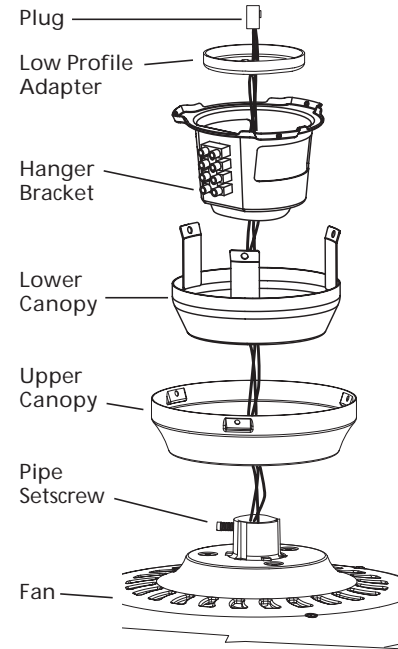

Figure 3a - Installing Low Profile Adapter
Refer to Figures 3a, 3b and 3c for the following steps.
1. Remove the Pipe Setscrew. **Note:** Save the Pipe Setscrew for possible future use in Standard or Angle Mounting. With the fan assembly resting level in the packing foam, first feed the wiring harness through the center of the upper canopy, followed by the lower canopy, then through the hanger bracket, and lastly through the low profile adapter. See figure 3a.